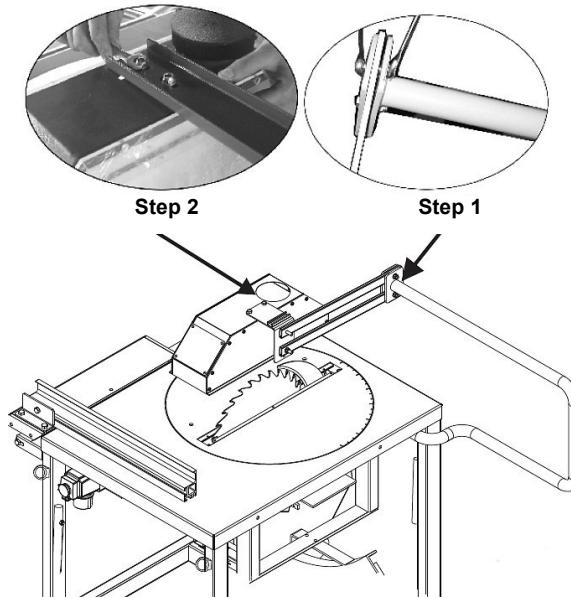

Fig. 10: Assembly of the retaining clip
Step 2: Connect the saw blade guard and the saw blade guard bracket as shown in step 1 and step 2 in Fig. 10.